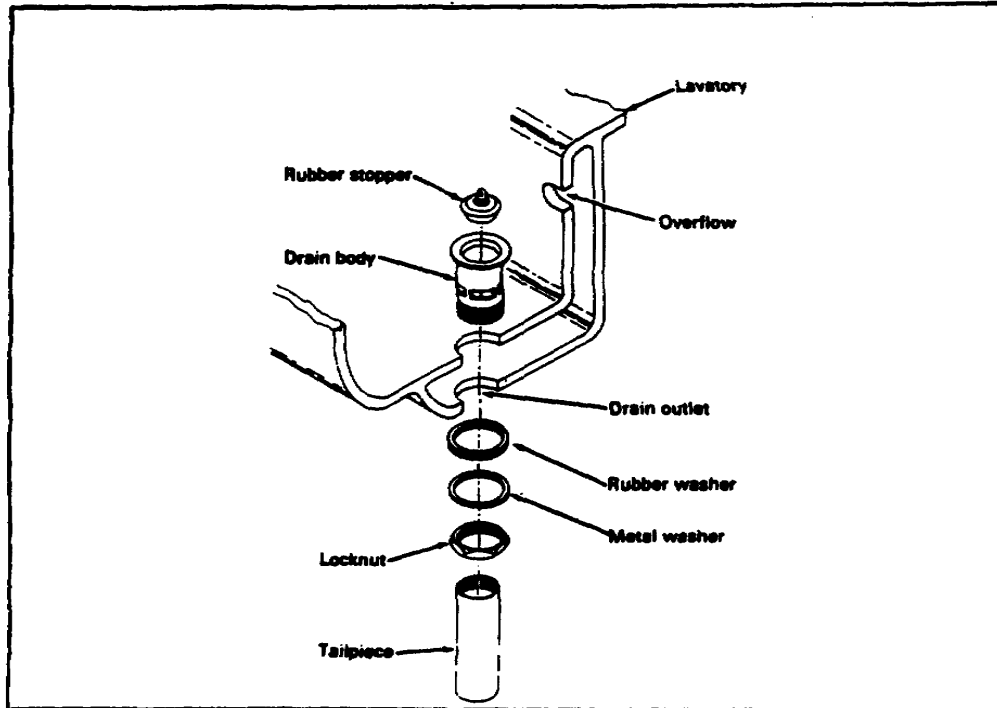

FIGURE 8. PULL-OUT (PO) PLUG OUTLET ATTACHMENTS
***Pull-out ( type of outlet attachment.*** Use the following steps for PO type outlet attachment (see Figure 8):